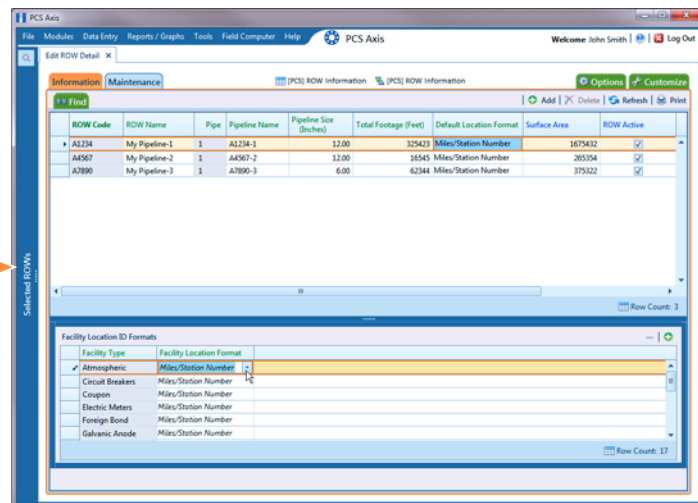

Figure 4-11. Edit ROW Detail
- 3 Click **Data Entry > Edit ROW Detail** to open the *Edit ROW Detail* window (Figure 4-11, page 113).